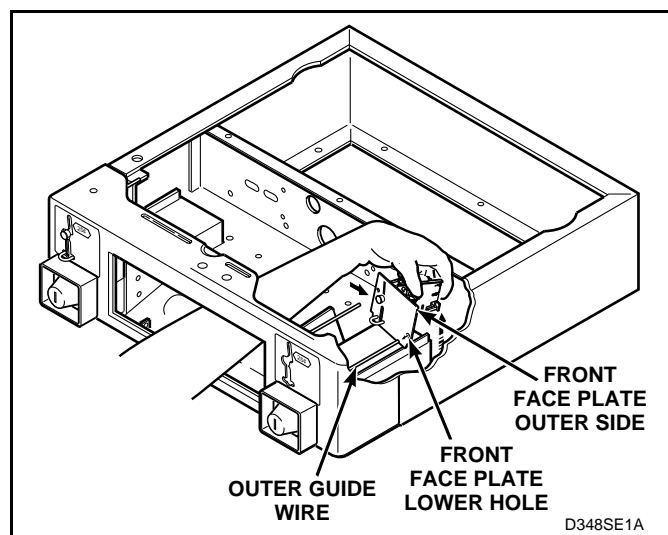

Figure 23
- (2) Carefully pull coin drop slightly up and forward. Turn the outer side of coin drop's front face plate slightly to feel the outer guide wire line up and enter the front face plate's lower hole. Gently tug coin drop sideways to feel if the outer guide wire has gone through the hole. See *Figure 23*.